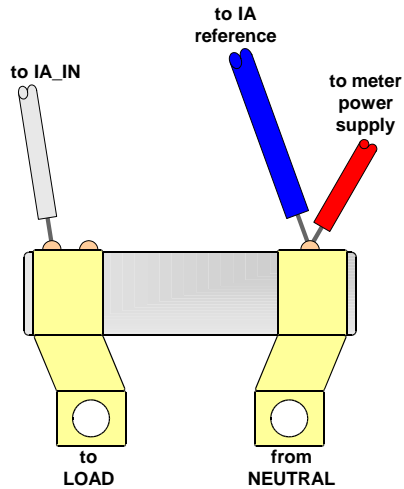
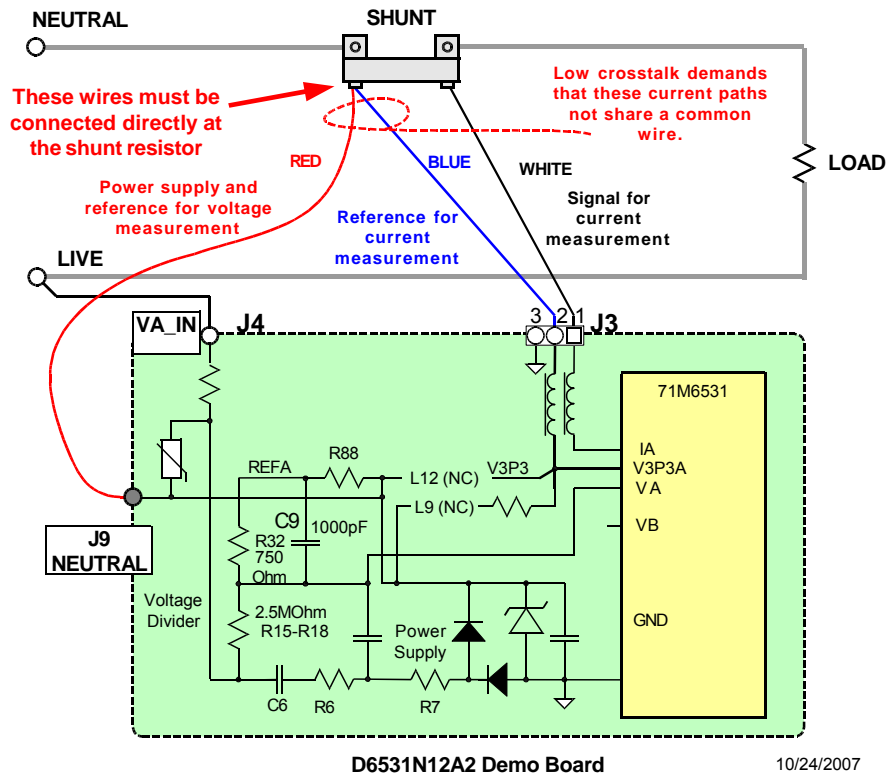

Figure 1-6: Pre-wired shunt resistor
Figure 1-7: Connection of the Pre-Wired Shunt Resistor
- 3) Connect the shunt resistor wiring harness as shown in Figure 1-7.
The 71M6531 Demo Kits are shipped with a pre-wired shunt resistor (400 $\mu\Omega$ ), as shown in Figure 1-6. This shunt resistor has to be connected to the 71M6531 Demo Board, as shown in Figure 1-7.